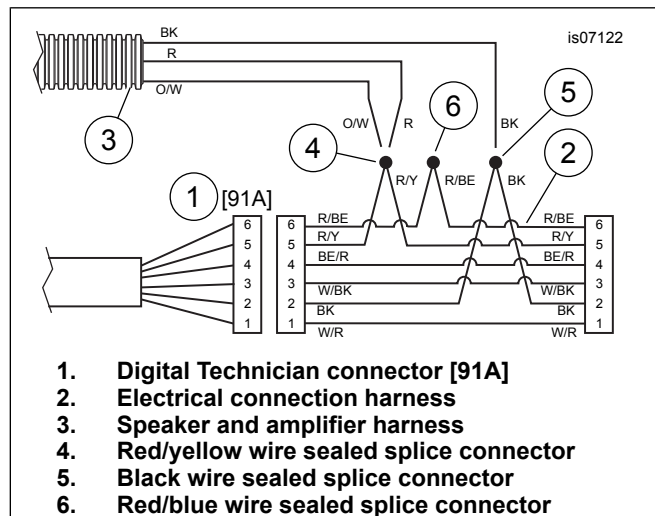

Figure 4. Wiring Diagram, Speaker/Amplifier Harness to Electrical Connection Harness
- a. See Figure 4. Locate the Digital Technician connector [91A] (Item 1, a gray six-way Deutsch connector with a rubber boot) under the seat. Place the Electrical Connection Harness (2) at the Digital Technician connector, but DO NOT connect them now.
- b. Route the speaker and amplifier harness (3) wires over to the Electrical Connection Harness. Cut the speaker and amplifier wires to a suitable length to easily reach the sealed splice connectors (4 and 5) on the Electrical Connection Harness.
- c. Splice both the red and the orange/white speaker and amplifier wires to the **red/yellow** wire sealed splice connector (4) in the Electrical Connection Harness.
- d. Splice the black speaker and amplifier wire to the **black** wire sealed splice connector (5) in the Electrical Connection Harness.
- f. Use the heat gun or heating device to seal the open end of the sealed splice connector (6) on the **red/blue** wires in the Electrical Connection Harness.
4. See the service manual for detailed instructions on sealed splice connections. If wire harness (part no. 69200722) was previously spliced, cut off existing splices. See Figure 4. for multiple splice configuration. If wire harness (part no. 69200722) was spliced in a prior install, make sure the 8-way Molex connector is disconnected from vehicle connector [4].
4. See the service manual for detailed instructions on sealed splice connections. If wire harness (part no. 69201599) was previously spliced, cut off existing splices. See Figure 4. for multiple splice configuration. If wire harness (part no. 69201599) was spliced in a prior install, make sure the 3-way Molex connector is disconnected from vehicle connector [325B].